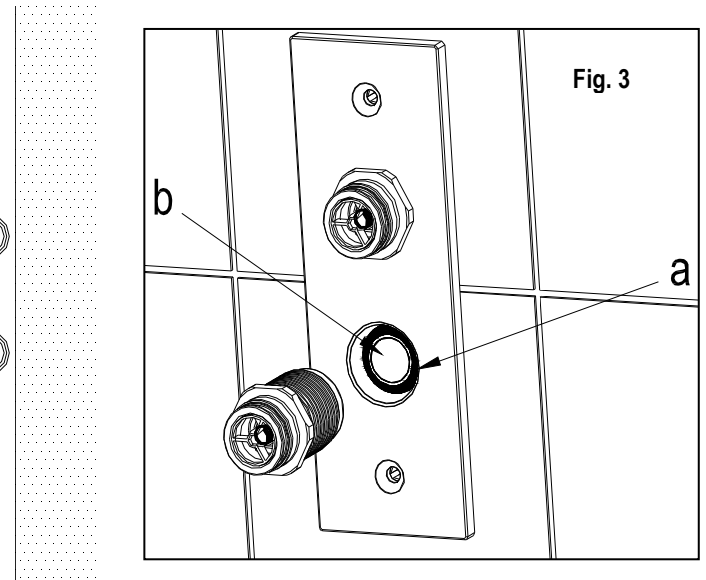

Fig. 3
4.8 Remove plastering shroud (4). **IMPORTANT - DO NOT FIT BACKPLATE UNTIL YOU HAVE RE-CHECKED PIPES ARE FLUSH WITH TILED WALL SURFACE AND NOT PROUD OF THE WALL. PLATE CANNOT BE REMOVED EASILY ONCE FITTED!** If the pipes are proud then they **must** be shortened. Carefully slide backplate (3) over pipework. Between 15 – 23mm of the pipe needs to locate within the backplate to ensure a seal (measured from the back). If in doubt remove brass inserts (5) by unscrewing anti-clockwise, if both o-rings (a) are located around the pipe (b) then all is fine (see Fig. 3). Carefully screw brass insert back into backplate.